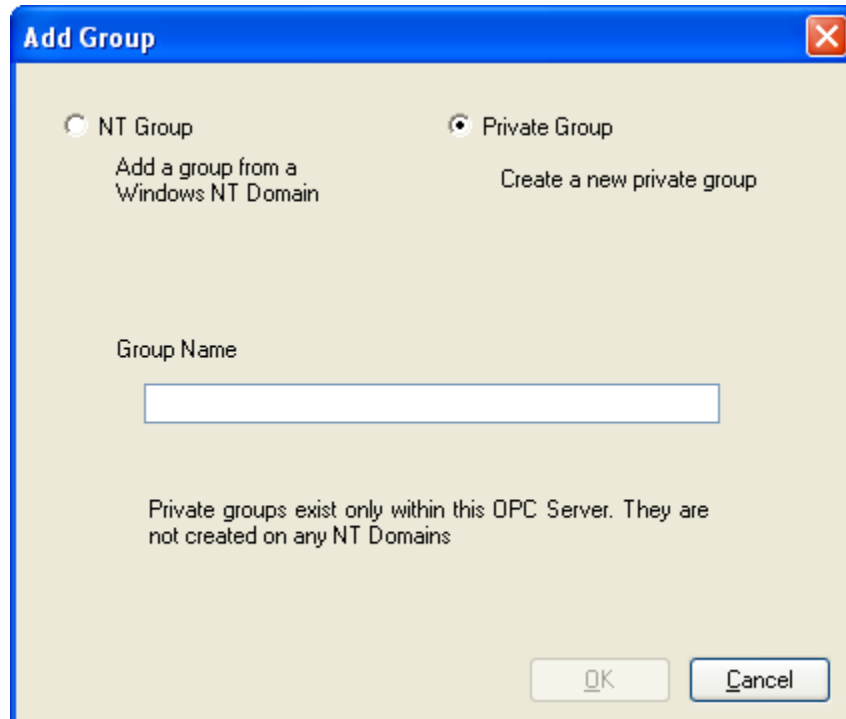

Figure 52 - Add Group Window (Private)
- Select the **Private Group** option button (Figure 52).